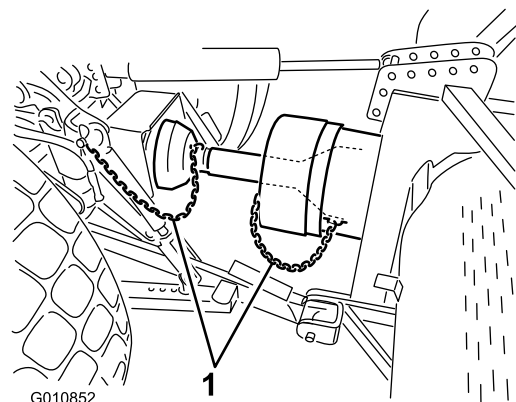

Figure 25
6. Connect the shield safety chains to the PTO shield and the traction unit bracket (Figure 25). Ensure that the chains remain slack when raising and lowering the aerator.